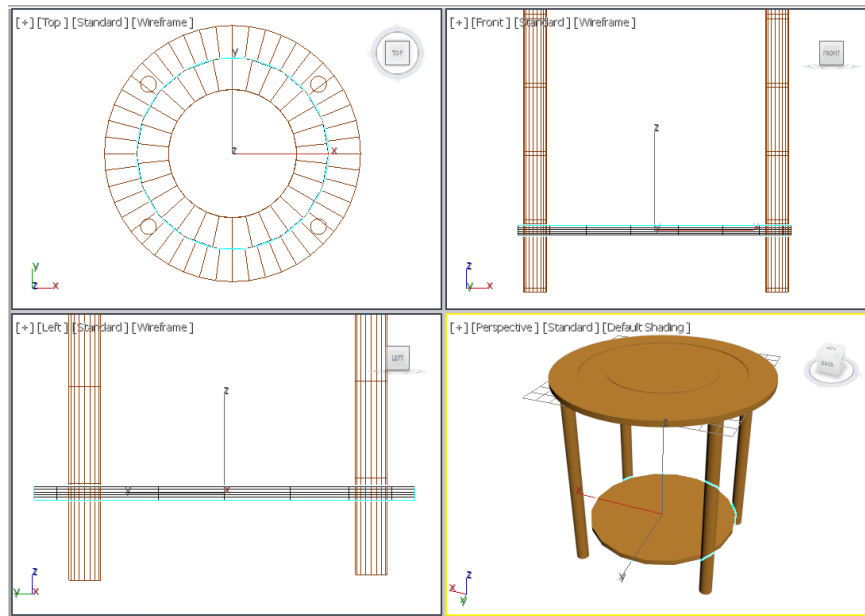

Figure 2-56 The base01 created
2. Rename it as *base01* and assign light brown color to it, refer to Figure 2-56.